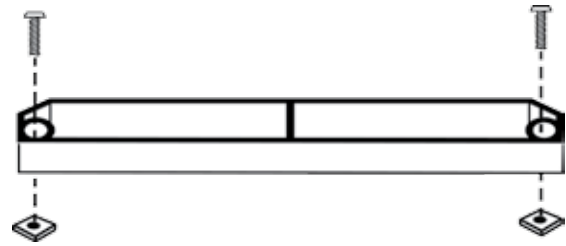

Figure 16-1
- 6.** Assemble the limit cams by placing the supplied screws into the open side of the cam and loosely screwing the square nuts onto the screws. [Figure 16-1]
[Figure 16-1]